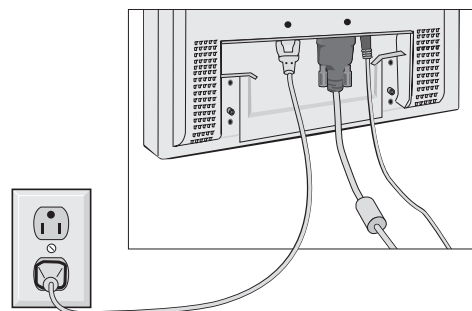

Figure R.3
5. Connect the AC cord, signal cable and Audio cable to the back of the monitor (**Figure R.3**).